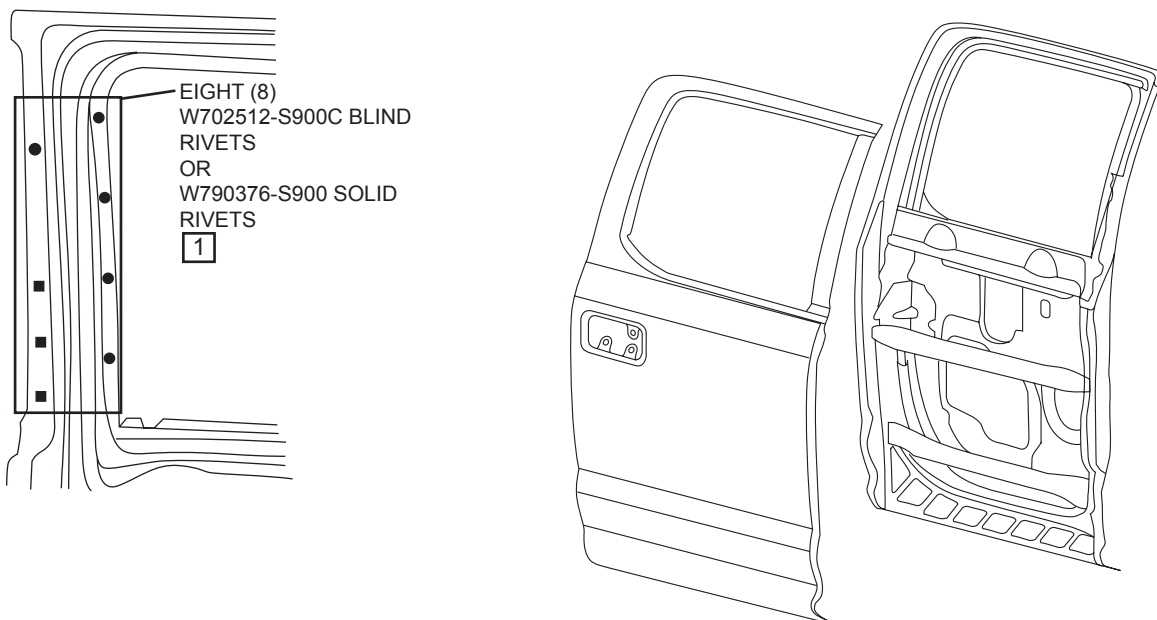

FIGURE 2
17. (Refer to Figure 2) to install all rivets.